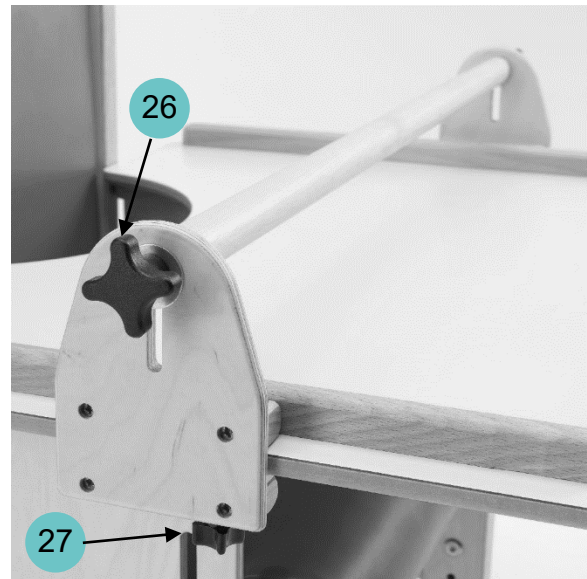

Figure 24
- To adjust the height of the handrail, loosen the handwheels located on the side (Ref. 26 of Figure 24).
- To adjust the depth of the handrail, loosen the handwheels located underneath the frame (Ref. 27 of Figure 24)